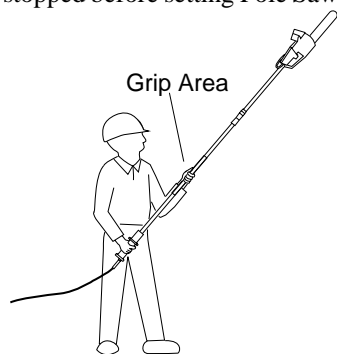

Figure 9 - Designated Grip Areas
- Use both hands to grip Pole Saw. Use only designated grip areas when operating Pole Saw (see Figure 9). Use firm grip. Thumbs and fingers must wrap around Pole Saw handle and pole.